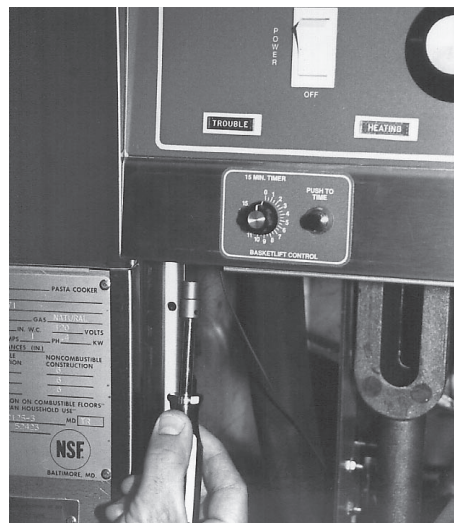

Fig. 5
2. With a ¼" socket, remove (2) #8 hex head screws located on the under flange of the control panel (Fig. 5).